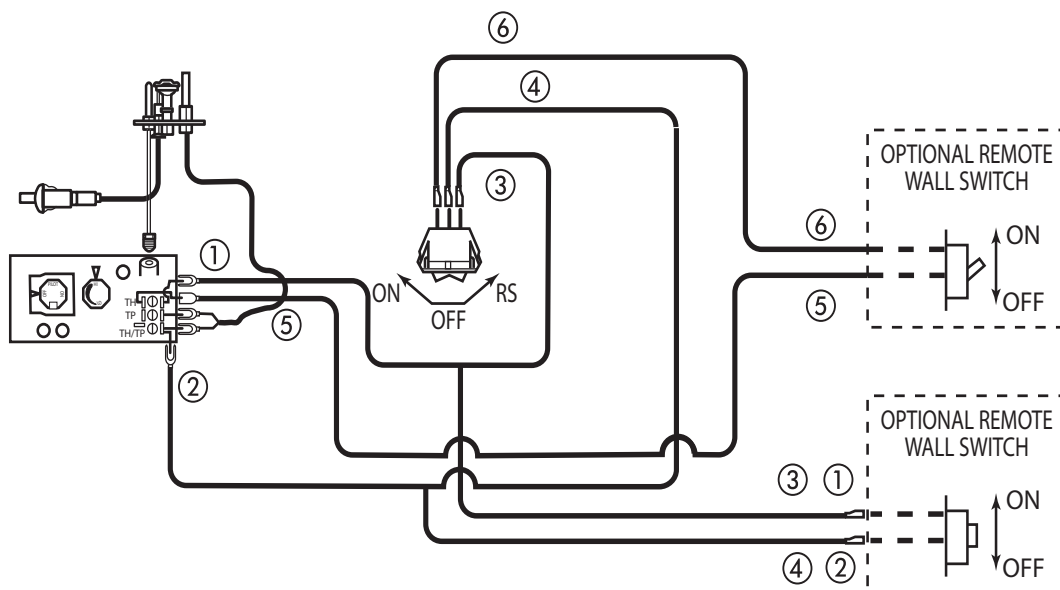

Figure 48 - Wiring Diagram for Wall Switch
A remote wall switch and up to fifteen (15) feet of 18 Ga. wire may be used with this appliance. Attach the wall switch in a junction box at the desired location on the wall. *Figure 48*. Do not extend beyond the wall switch wire length provided.